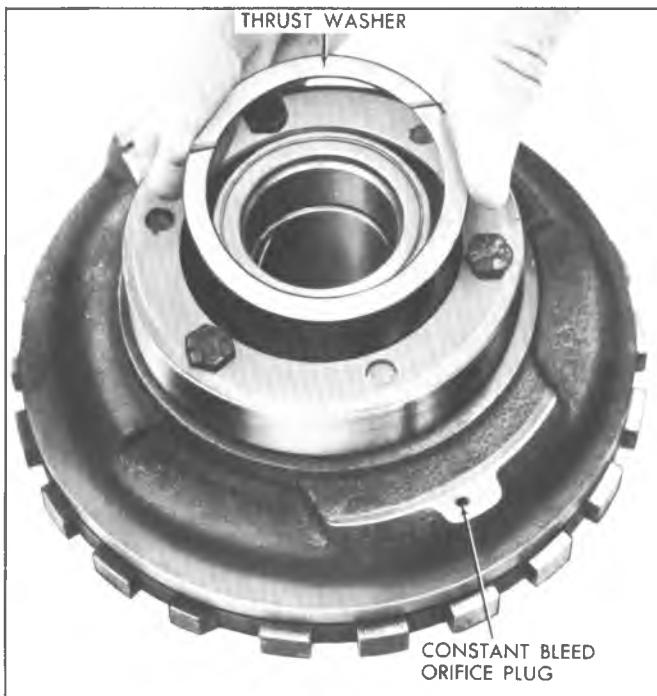

Fig. 40T--Removing Center Support Thrust Washer
2. Remove center support to reaction carrier thrust washer (fig. 40T).